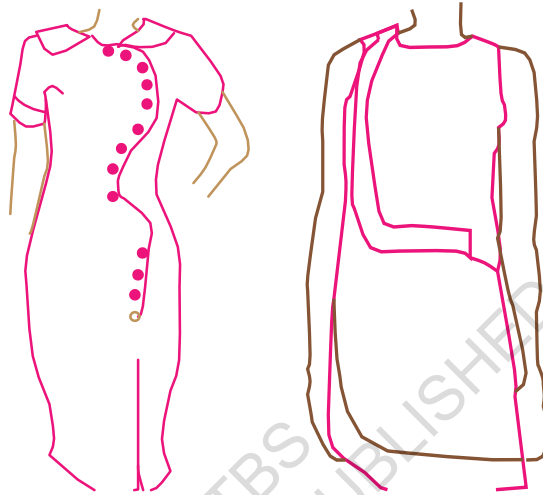

*Fig.4.6 Examples of Curved Lines*
**Curved or Rounded Lines:** These lines generally follow the contours of the body and are flattering. They give an appearance of fullness and mass. These are found in a garment as neckline curves, collars, sleeves, yokes, hems, etc. They have a unique quality of grace and gentleness. Curved lines have the effect of lengthening when they are almost vertical and widening when they are more horizontal. Fig.4.6 shows some examples of curved lines.